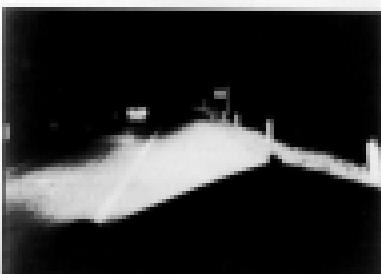

Fig. 618. Traffic (Lower) Beam Light Pattern.
2. A traffic (lower) beam (Fig. 618) is also provided and is low enough on the left side to avoid glare in the eyes of the on-coming drivers. It is intended for use in cities and on heavily traveled highways and should always be used when meeting other vehicles. At the same time the distribution of light is such that the right side of the road is illuminated as far ahead as is practicable without causing glare on curves.